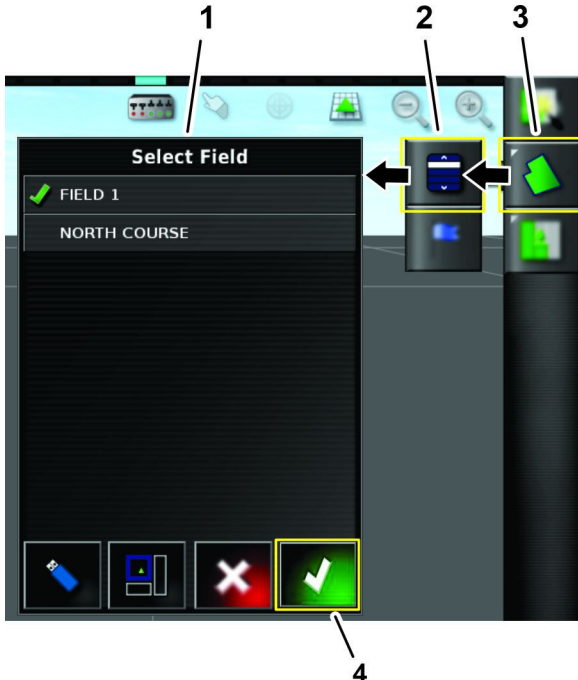

Figure 160
5. Press the FIELD MENU icon, in the select field list press the icon for a field, and press the confirm icon (Figure 160).
6. In the select field list, press the icon for a field (Figure 160); refer to Creating a New Field (page 20).